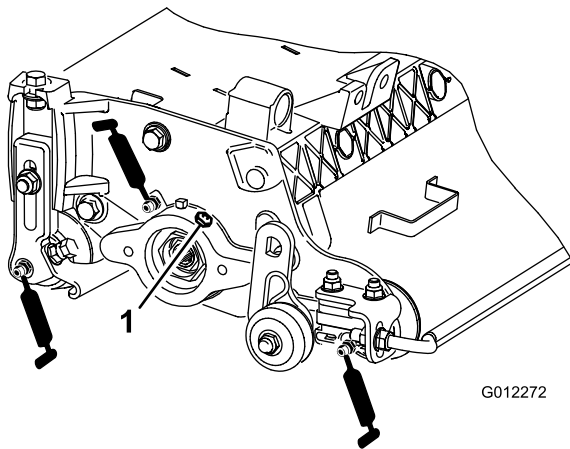

Figure 8
Each verticutter has 7 grease fittings (Figure 8) that must be lubricated weekly with No. 2 General Purpose Lithium Base Grease.
2. Apply grease until clean grease is seen coming out of the roller seals and the bearing relief valve (Figure 8).